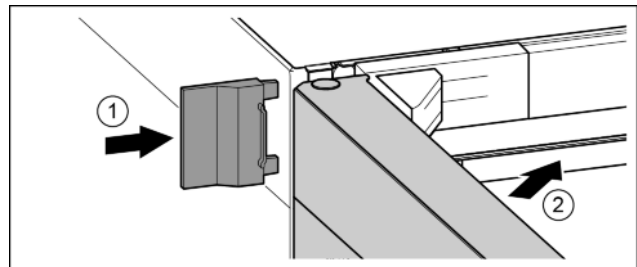

Fig. 20
- ▶ Slide on the external cover. Fig. 20 (1)
- ▶ Close the upper door. Fig. 20 (2)